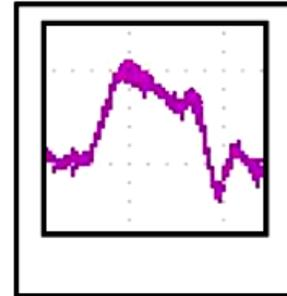

Figure 1- Correct mA drive signal waveform
- Does the waveform appear as shown in Figure 1?